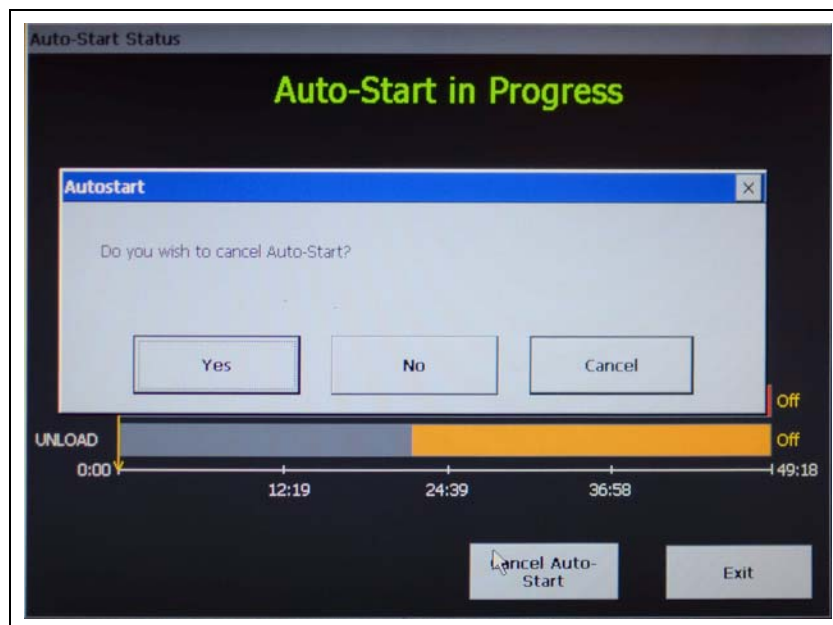

Figure 5O Confirm Cancellation of Auto-Start
3. Confirm the intent to cancel Auto-Start by pressing “Yes” on the pop-up dialog. (See Figure 5O.)